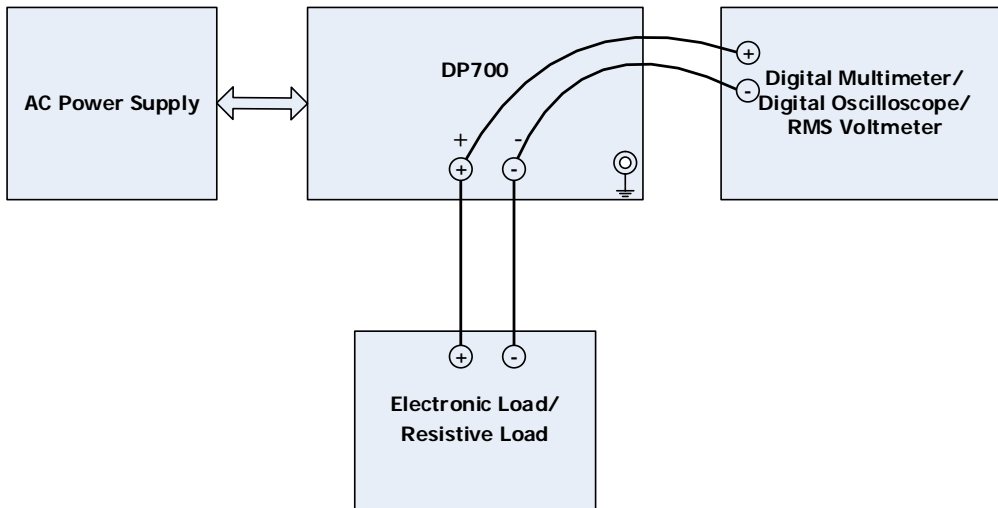

Figure 2-1 CV Test Connection
Before performing the test, select the appropriate AC voltage via the "AC Selector" on the rear panel of the power supply according to the AC voltage standard of your country (220 Vac is taken as an example in all the tests in this manual). At room temperature (25°C), connect the recommended devices specified in "**Recommended Test Devices**" according to the connection method in Figure 2-1. During the test process, please set the AC voltage according to the selected voltage in "AC Selector" on the rear panel of the power supply.
1. Power off DP711. Connect DP711, AC power supply, an electronic load, and a digital multimeter according to Figure 2-1. The electronic load and the digital multimeter are connected with the channel output terminals of DP711. Please refer to "**Test Precautions**" for the connection method.
1. Power off DP711. Connect DP711, AC power supply, a resistive load, and a digital multimeter according to Figure 2-1. The resistive load and the digital multimeter are connected with the channel output terminals of DP711. Please refer to "Test Precautions" for the connection method.